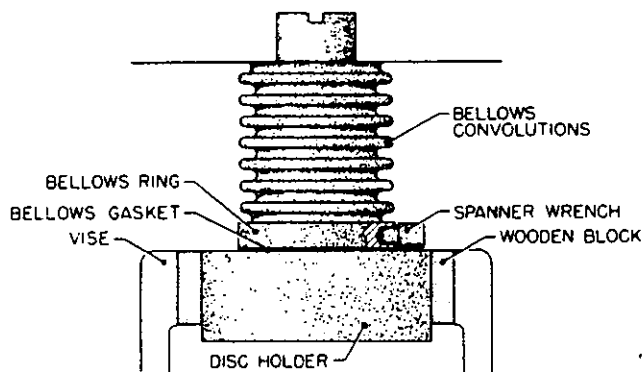

Fig. 6
9. The bellows is attached to the disc holder by right-hand threads. Apply a special spanner wrench² to the bellows ring and loosen bellows ring and loosen bellows by turning counter-clockwise (Fig. 6). The bellows convolutions are very thin metal and care should be taken to protect them from damage at all times. Remove bellows gasket.